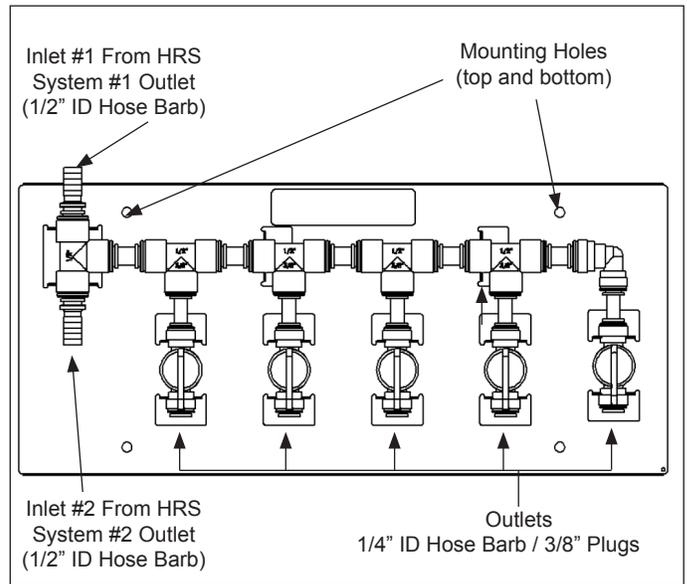

Figure 2. Installing the Outlet Connectors
- The manifold can be mounted with the valve outlets facing either UP or DOWN; however the preferred position is valve outlets down (Figure 2). When mounted with the valve outlets DOWN, the inlet is on the left.
The Inlet connections use 1/2" ID hose barbs. Attach the outlet from each HRS System to the inlet tee fitting. Refer to Figure 2.
The kit comes with 1/4" ID Hose Barb Adapters. An adapter must be installed in each valve outlet before the system can be hooked-up. Refer to Figure 2.